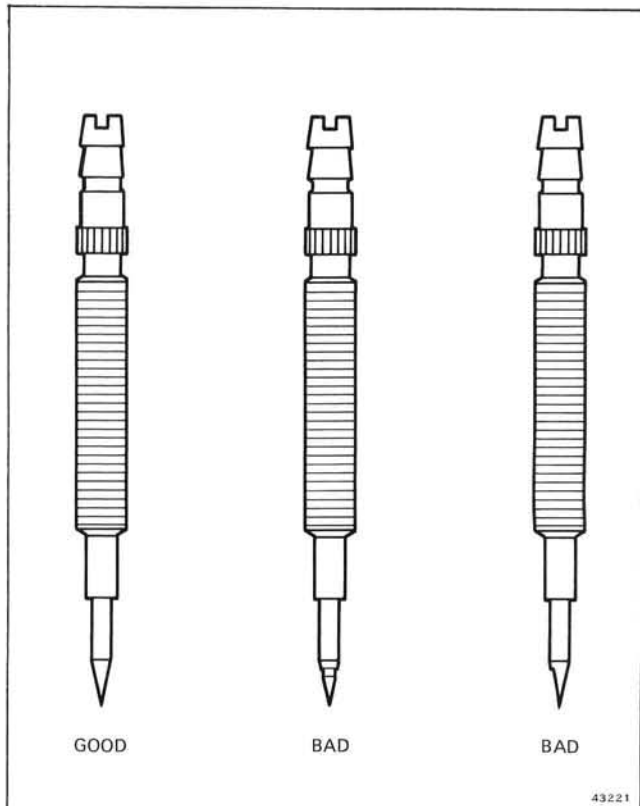

Figure 3-17. Needle Valve Wear
a. Inspect the tapered end of the needle valve for grooves, nicks, or scratches; replace if necessary. See Figure 3-17. Wear on one side of valve may indicate vibration from a damaged propeller.